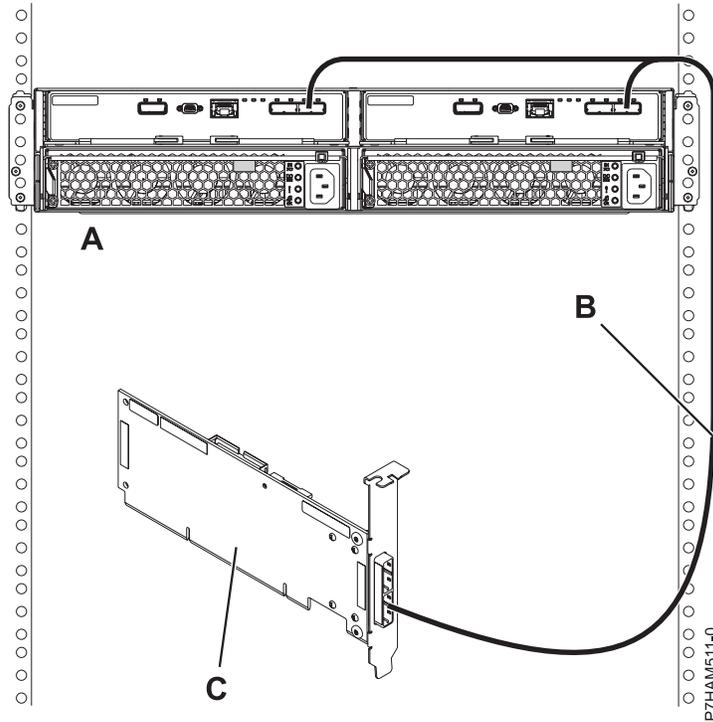

Figure 29. Mode 1 connection of one 58/87 disk drive enclosure by using a YO cable to a single SAS adapter
- i. Perform the mode 1 connection of one 58/87 disk drive enclosure (A) by using a YO cable (B) to a single SAS adapter (C) as shown in Figure 29 on page 26.